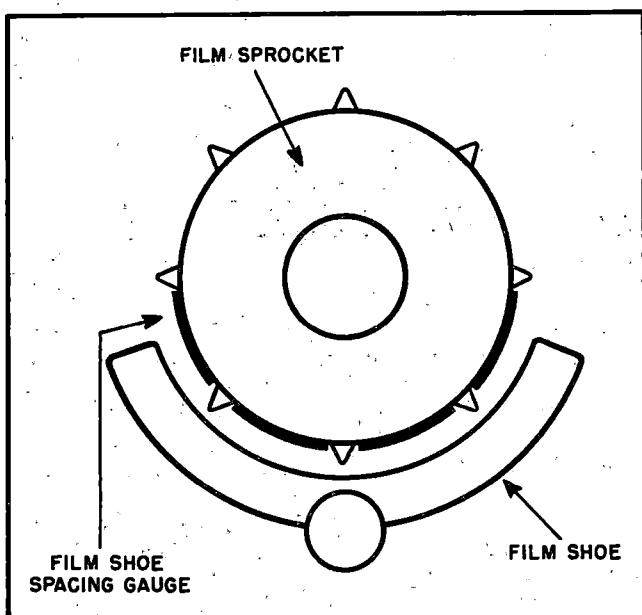

Figure 7. Using Sprocket Shoe Film Clearance Gage
(See Parts Catalog figure 7.)
d. Apply a very light film of grease to locking rod (29), spring (30) and the lock rod point grooves in the bracket (31). When assembling sprocket guard into bracket, these two grooves should be at top of bracket (toward open face of guard). Install and tighten pivot screws (28). Press bracket down so that lock rod hole in shoe is accessible, and insert spring (30) and rod (29) into hole. Hold lock rod down with screwdriver while snapping bracket back up into position.
e. Install film stops (20) on flange of bearings in mechanism plate so that U-shaped edge of stop is centrally located in regard to sprocket guard mounting holes. Install gears (17, 18 and 19) and install washers (16) and sprockets (14) on gear shafts. Securely lock each sprocket with two set screws (15). Sprockets and shafts must turn freely with a maximum end play of 0.0005-inch.
f. Mount sprocket guards (24) either under or over sprocket as required, with two screws (25) and lock washers (26). Do not tighten screws. Raise guard away from sprocket and insert film clearance gage (Tool Number S-061081-N16) between sprocket and guard as shown in figure 7. Close guard against gage and tighten screws (25) securely. Open guard and remove gage. Repeat procedure for all three sprocket guards. Attach film strippers (21) with the screws (22) and lock washers (23).
g. Install sleeve (13) on protruding shaft of gear (17). Mount gears (6 and 10) to gear studs with retaining rings (7 and 11). Be sure spacer (8) is in place on gear stud (9).
h. Check to make certain that all shafts turn freely with no perceptible end play. Lubricate all gear teeth with grease and install gear cover (1) and its gasket (5) with six screws (2 and 3) and lock washers (4).